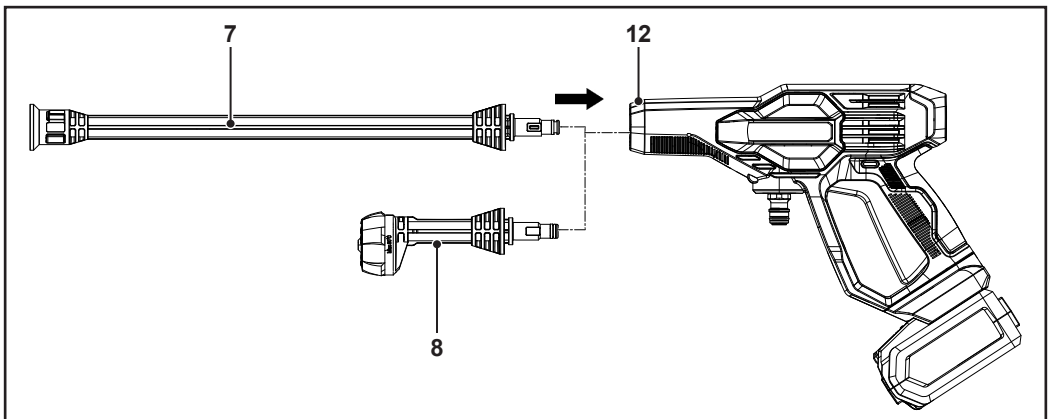

Fig. 4
1. Insert the five-in-one nozzle (8) into the water outlet (12) (Fig. 4). The protrusions on the five-in-one nozzle (8) have to fit the recesses on the water outlet (12).
2. Rotate the five-in-one nozzle (8) until it is secured on the appliance.
1. Insert the spray wand (7) into the water outlet (12) (Fig. 4). The protrusions on the spray wand (7) have to fit the recesses on the water outlet (12).
2. Rotate the spray wand (7) until it is secured on the appliance.
3. Insert the five-in-one nozzle (8) into the spray wand (7). The protrusions on the five-in-one nozzle (8) have to fit the recesses on the spray wand (7).
4. Rotate the five-in-one nozzle (8) until it is secured on the spray wand (7).